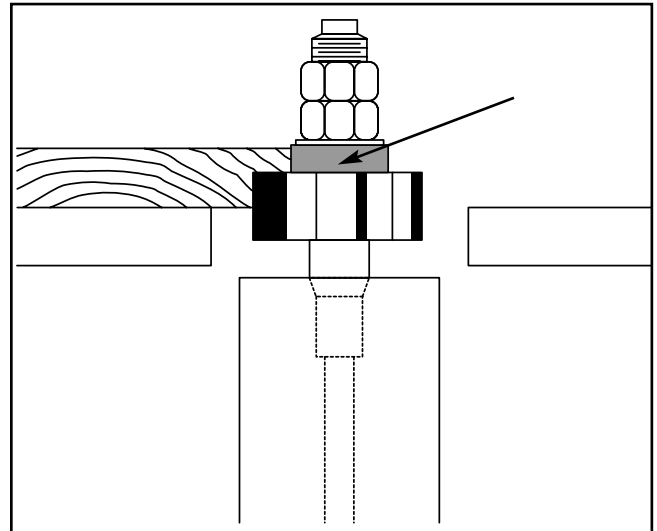

Figure 41. Rub collar installed above cutter.
2. **Above the cutter:** When the rub collar is used above the cutter as seen in **Figure 41**, the cut cannot be seen. This offers some advantage: the stock is not affected by slight variations in thickness and accidental lifting will not damage the workpiece. If lifting occurs, simply correct the mistake by repeating the operation.